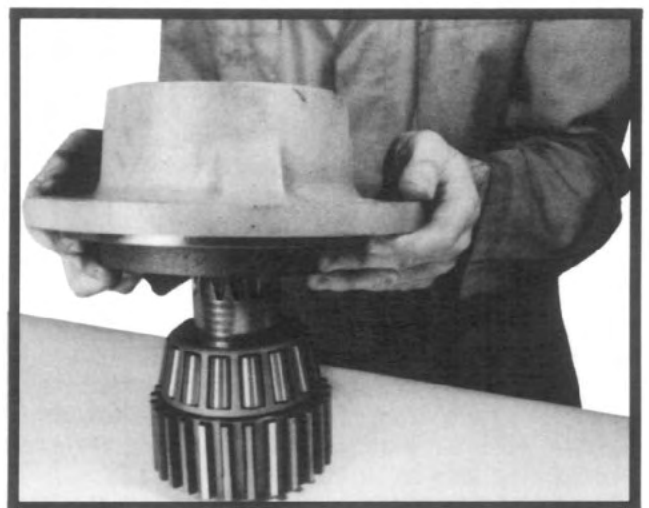

Fig. 31
20. Press roller bearing onto output shaft and insert declutch carrier onto output (see fig. 31).